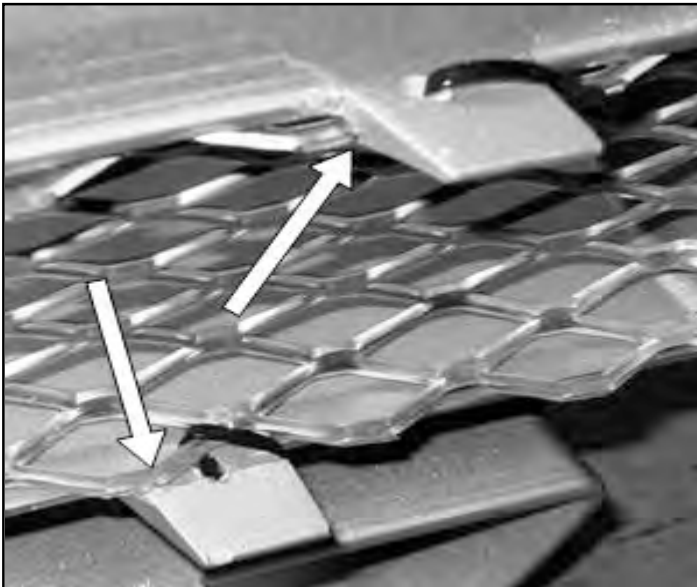

Figure 11. Grilles installed. The arrows point to where the grille seats against the frame tabs' retaining lip.
3) Install the grilles into the grille frame. Fit the grilles into their respective openings and secure them with the nylon ties, as shown in **Fig. 11**. Notice the grille backs up against the retaining lip that secured the stock grilles. It may be necessary to make minor adjustments to perfect the fit. Clip the tails from the ties with angle cutters.